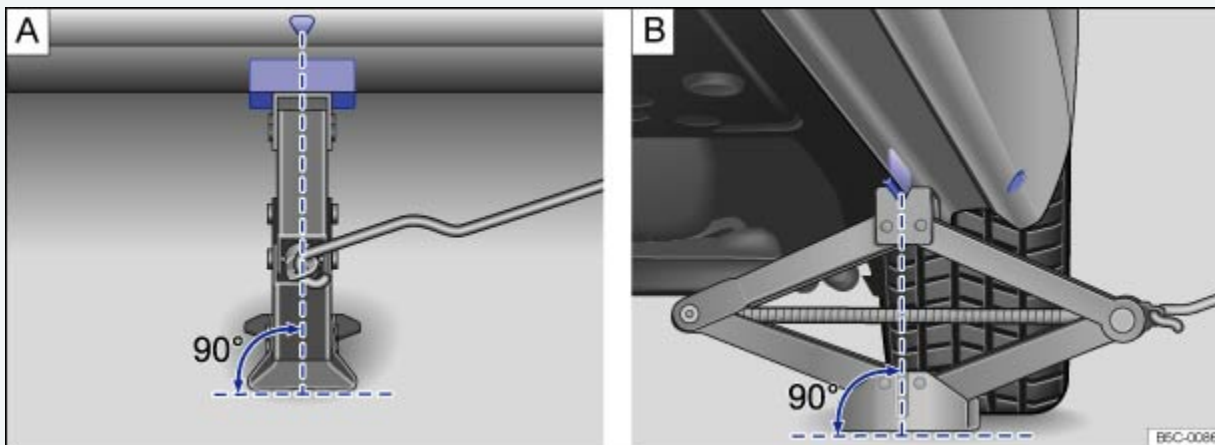

Fig. 225 Jack in position at the left rear lift point.
- Position the jack only at the described vehicle lift points. Before you raise your vehicle, always make sure the jack claw properly grips the vertical rib under the sill so that the jack does not slip off when you are raising the vehicle ⇒ *Fig. 225*.